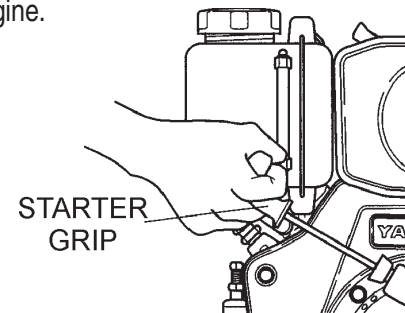

Figure 37. Recoil Starter Grip
- For recoil type compactors, push the decompression down (non-decompression position) and hold it while you pull the recoil starter grip (Figure 37) rope 2 or 3 times. **DO NOT** start the engine.